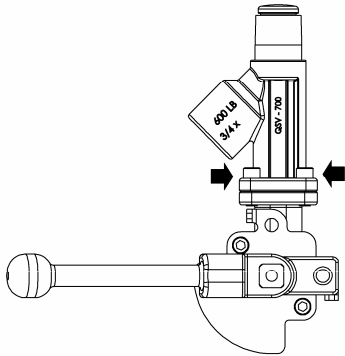

Figure 3 Changing Mounting Position.
To change the valve outlet position requires the removal of four (4) socket head machine screws and rotating the Actuator Housing Cover in 90-degree increments for the best-preferred position (See Figure 3). In this manner the valve discharge can be placed in three (3) positions and the operator handle in twelve (12) positions.
To remove the inner Actuator Shaft Bearing, apply a 1/8" hex wrench to the exposed Button Head Socket Cap Screw (see Figure 3) and remove screw.